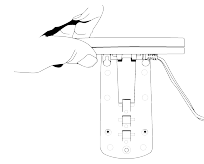

Fig. 4
3. Using three of the mounting screws provided, mount solar panel to a solid surface (Fig. 4). Adjust the angle of the solar panel so that it will receive the maximum amount of direct sunlight possible during the daylight hours. The solar panel can be mounted up to 8 feet away from the light fixture.